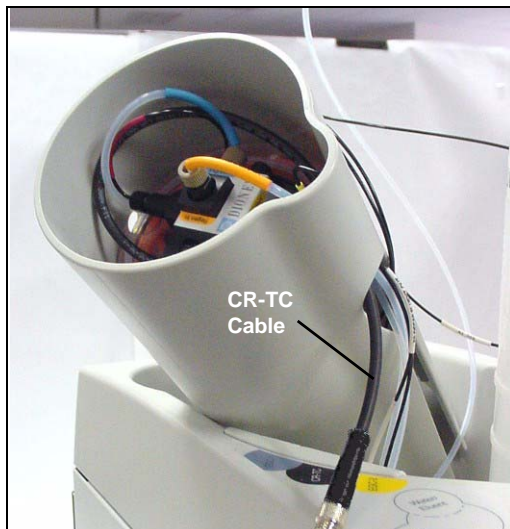

Figure 42. Installing the CR-TC
6. Feed the CR-TC cable through the slot on the side of the EGC holder (see Figure 42).